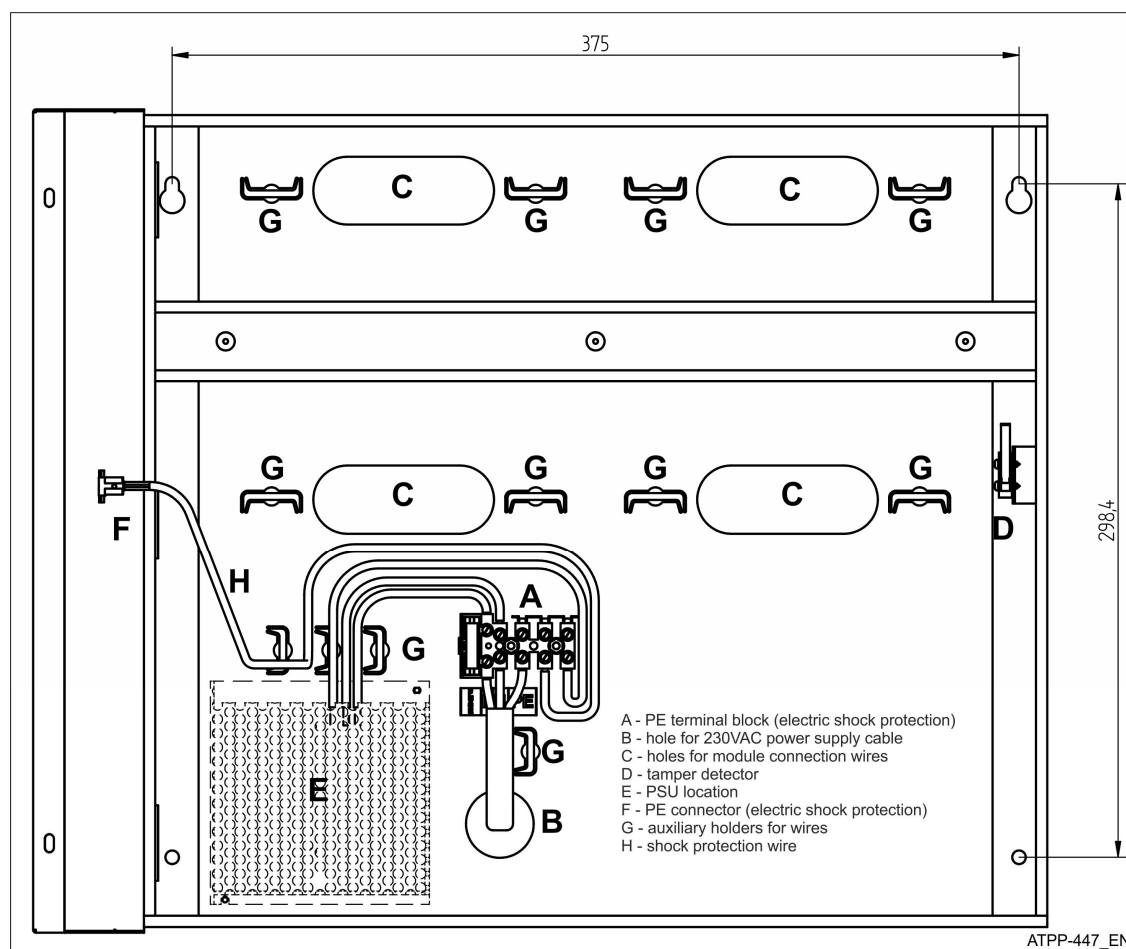

Fig. 2 Internal view of ME-40-24V enclosure
6. Protective wire M connected to the terminal block A, should be connected to the F connector of the anti-shock protection PE located on the enclosure door (Fig. 2).